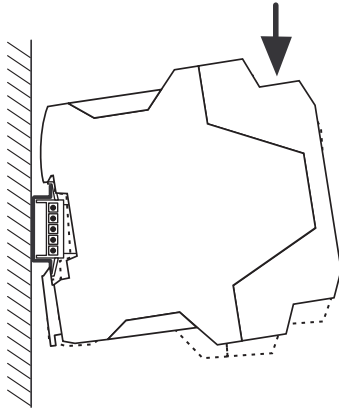

Figure 7-2 Snapping a PSR-TRISAFE module onto the DIN rail
2. Place the module onto the DIN rail from above, so that the upper holding keyway of the module hooks onto the top edge of the DIN rail (see figure 7-2).